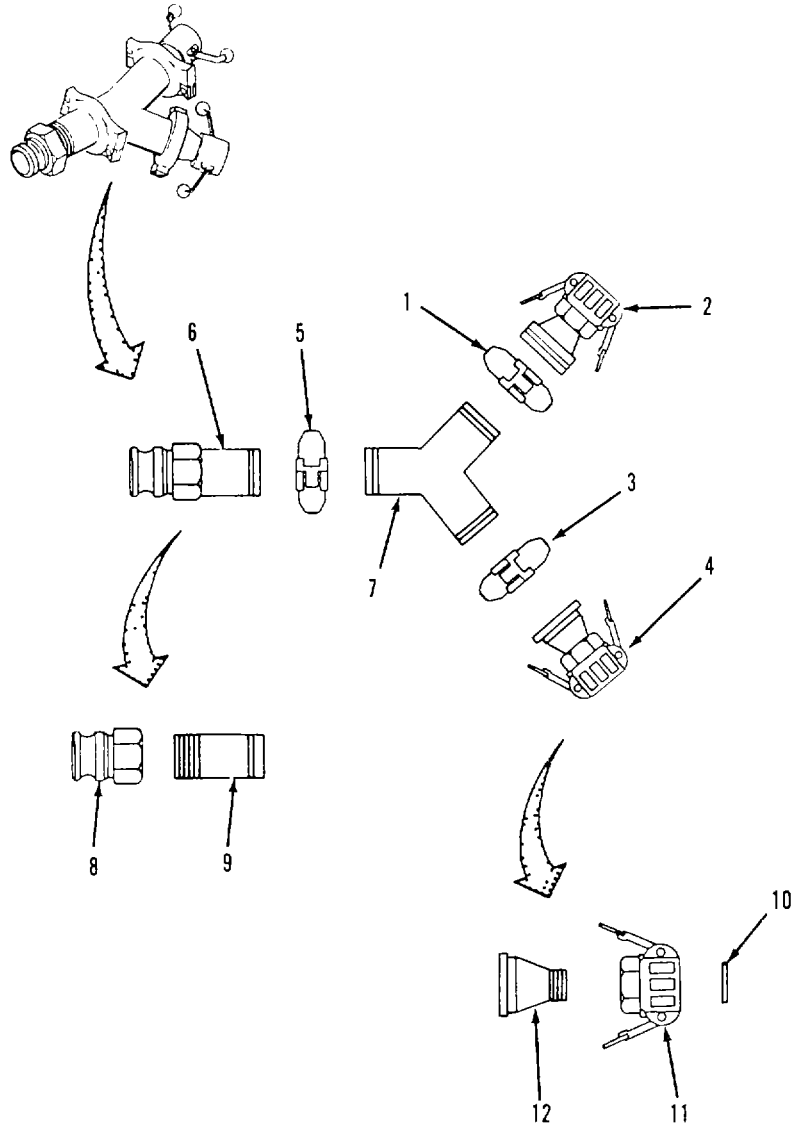

Figure 4-24. Y-Connector Assembly.
- (1) Inspect male coupling (8), female couplings (11), nipple (9) and yfitting (7) for cracks and corrosion.
- (2) Inspect nipple (9), male coupling (8) and reducers (12) for damaged threads.
- (3) Inspect nipple (9), y fitting (7) and reducers (12) for damaged coupling clamp sealing surfaces.
- e. Assembly. Refer to figure 4-24.